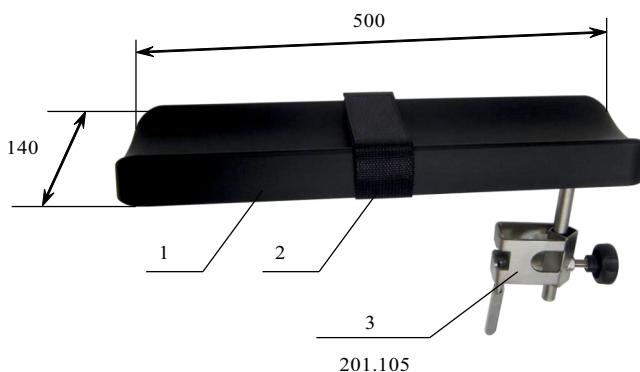

Figure 3. Injection plate.
3. **Injection plate** (arm support) (Figure 3). Profiled bed 1 is made of molded urethane foam, and stainless mounting elements. It is height-adjustable and rotates around a vertical axis. Equipped with a clip and a restraint strap. The maximum permissible load is 15 kg.